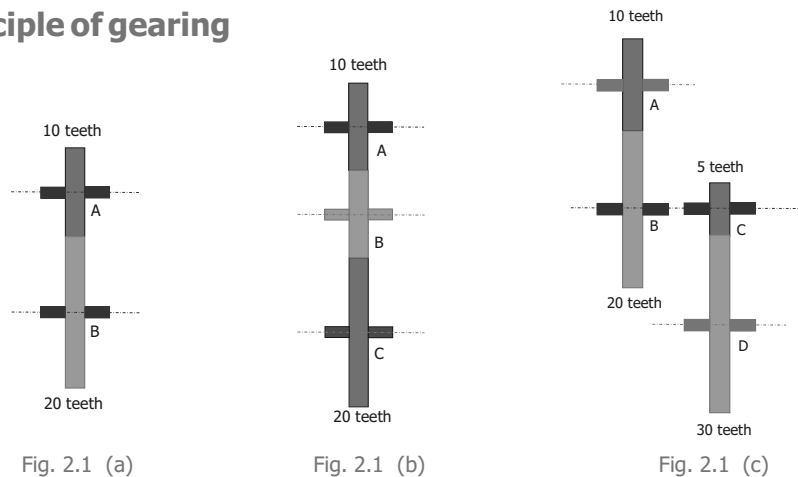

Figure 2.1 Principle of gearing
- Consider a single train in which the driving gear A has 10 teeth & driven gear B has 20 teeth. Fig 2.1 (a) If gear A is rotating with a speed of 100 rpm, the speed of gear B is given by :